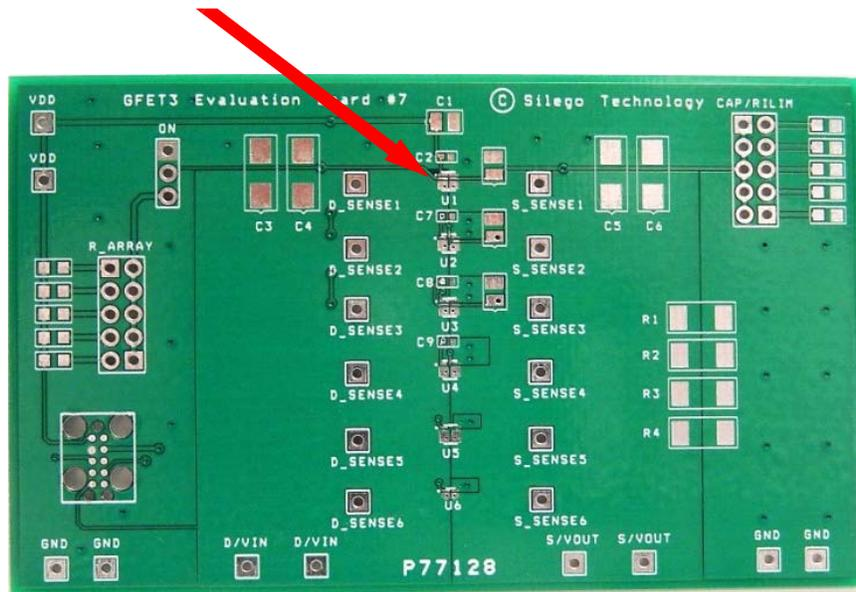

Figure 1. SLG59M307V Evaluation Board.
2. Since the D and S pins dissipate most of the heat generated during high-load current operation, it is highly recommended to make power traces as short, direct, and wide as possible. A good practice is to make power traces with an absolute minimum widths of 15 mils (0.381 mm) per Ampere. A representative layout, shown in Figure 1, illustrates proper techniques for heat to transfer as efficiently as possible out of the device;
A GFET3 Evaluation Board for SLG59M307V is designed according to the statements above and is illustrated on Figure 1. Please note that evaluation board has D_Sense and S_Sense pads. They cannot carry high currents and dedicated only for RDS_{ON} evaluation.